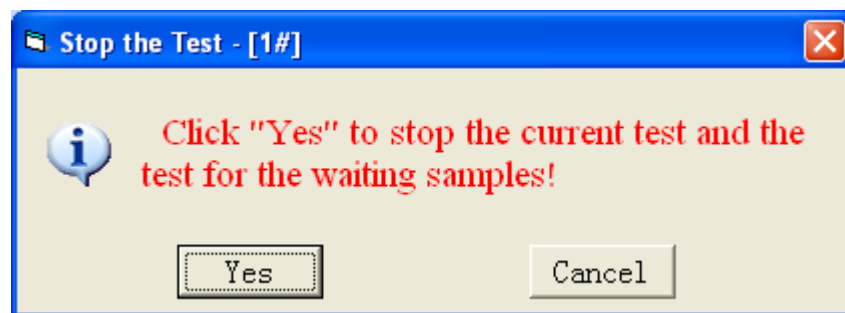

Fig.4-4-2
2. Stop the test: Select this menu item or click “Stop test” button in the short-cut button bar to pop up the window as shown in Fig.4-4-2.